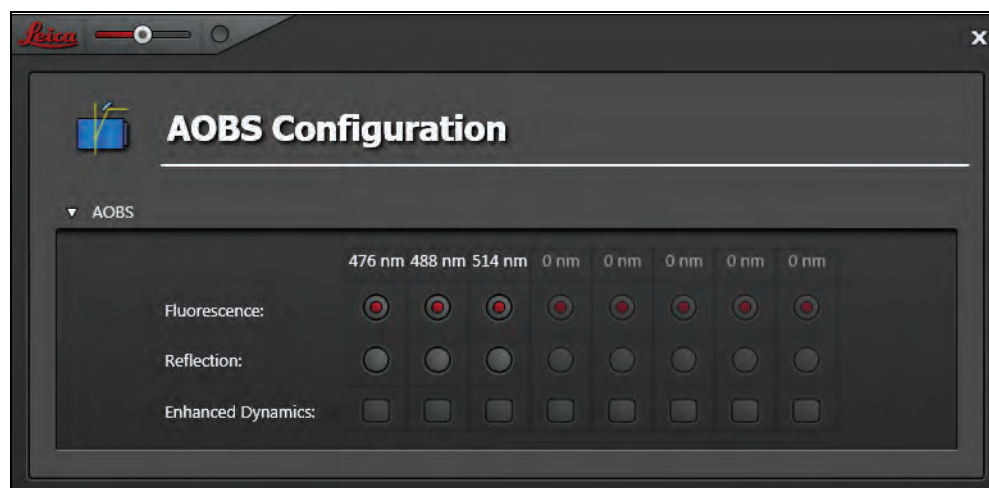

Figure 116: Dialog for AOBS configuration
1. For capturing the emitted fluorescence, set the acousto-optical beam splitter to fluorescence (**Figure 116**).